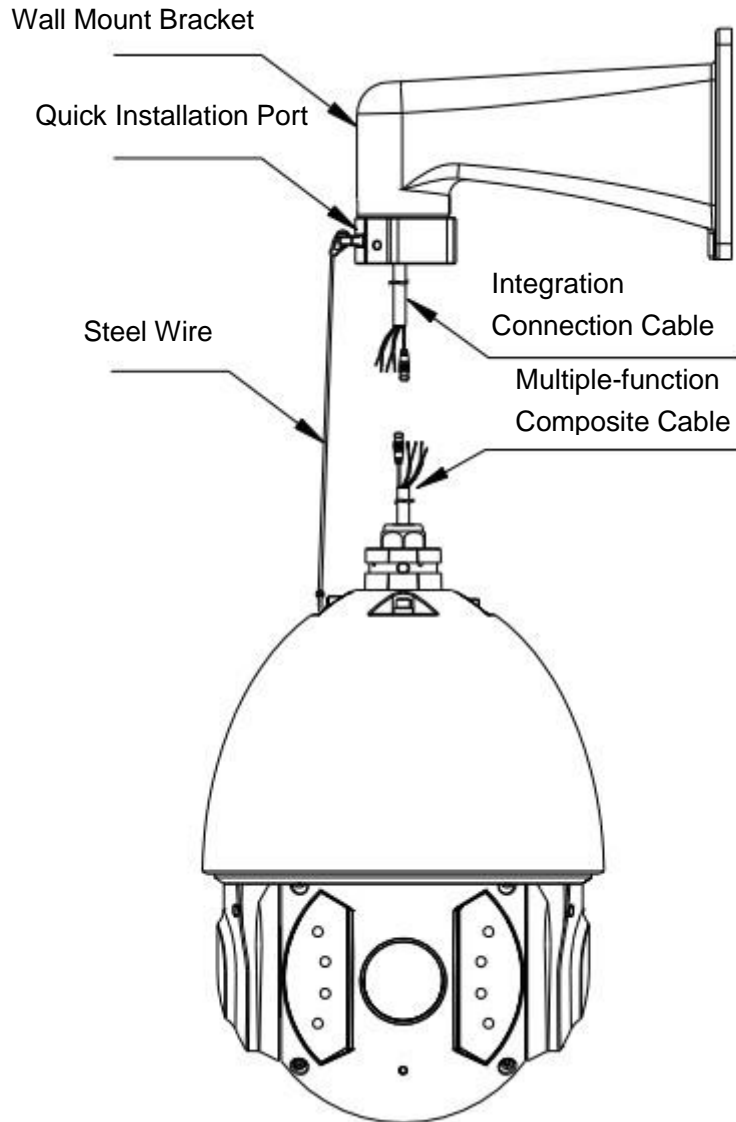

Figure 1-6
- Connect the reserved integration cable of the wall mount bracket to the corresponding power cable, video/audio cable, RS485 control cable, alarm port, high frequency cable, fiber cable (if necessary) of the multiple-function composite cable of the IR speed dome. Paste the insulating tape in the connection position to do the proper waterproof work. See Figure 1-6.